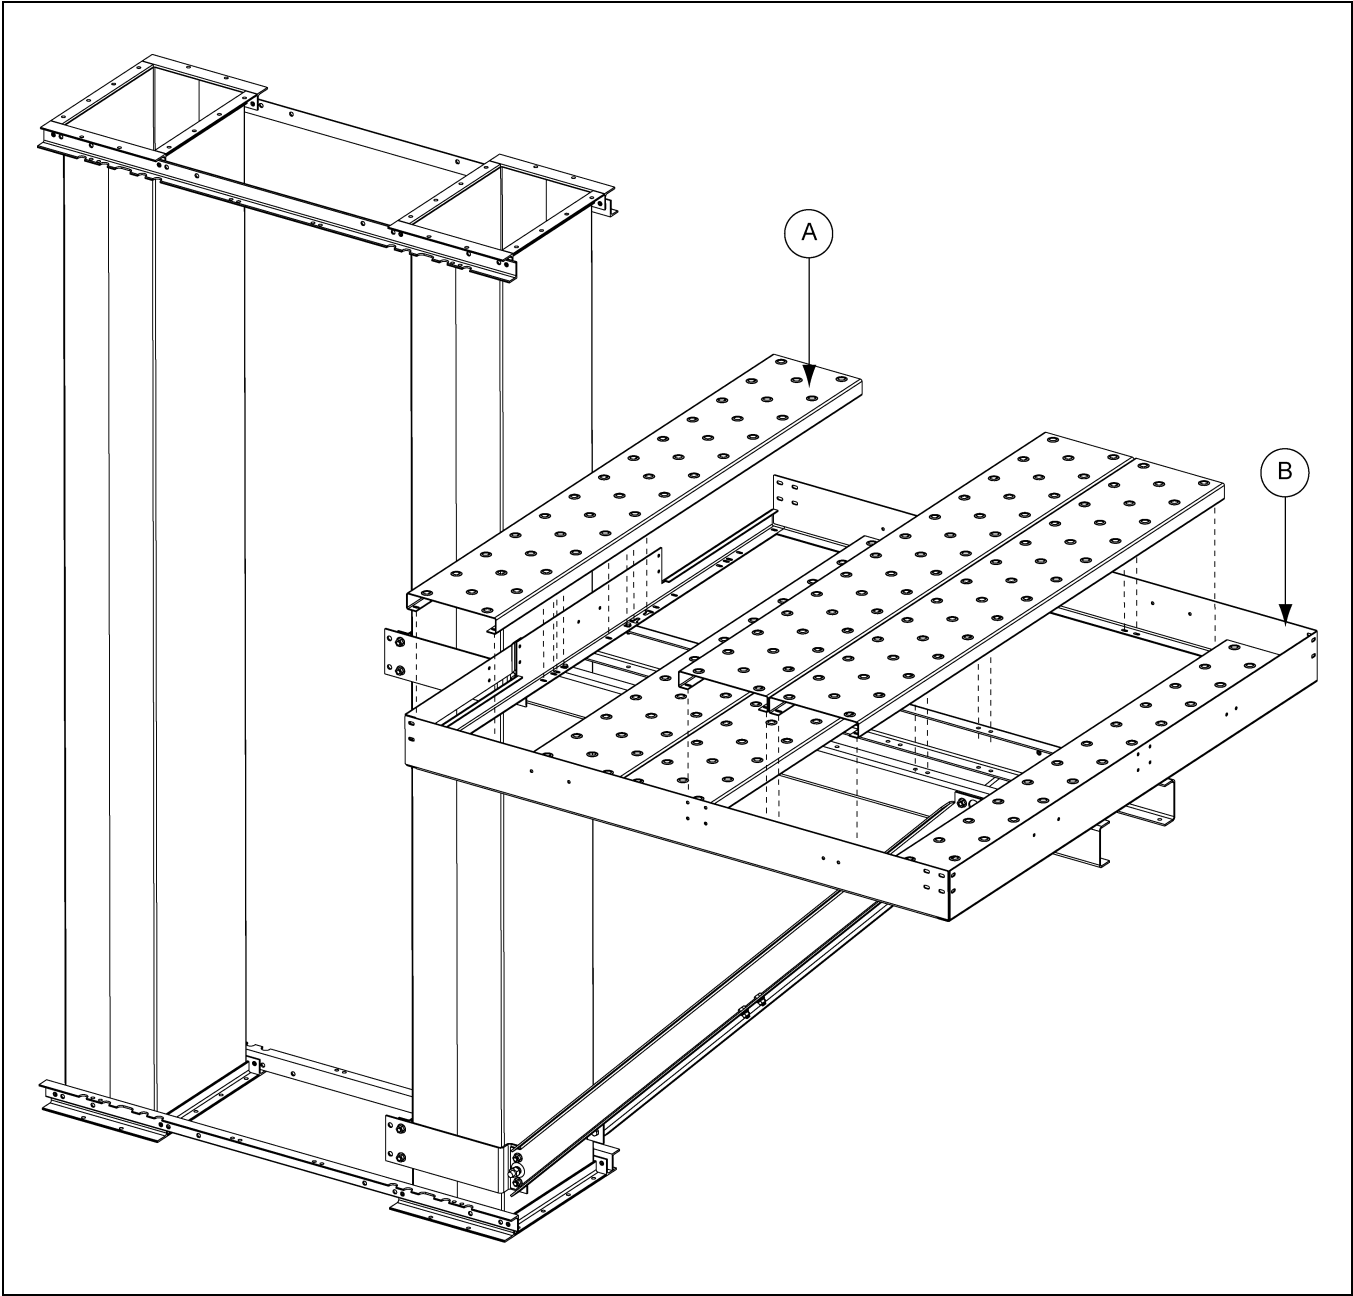
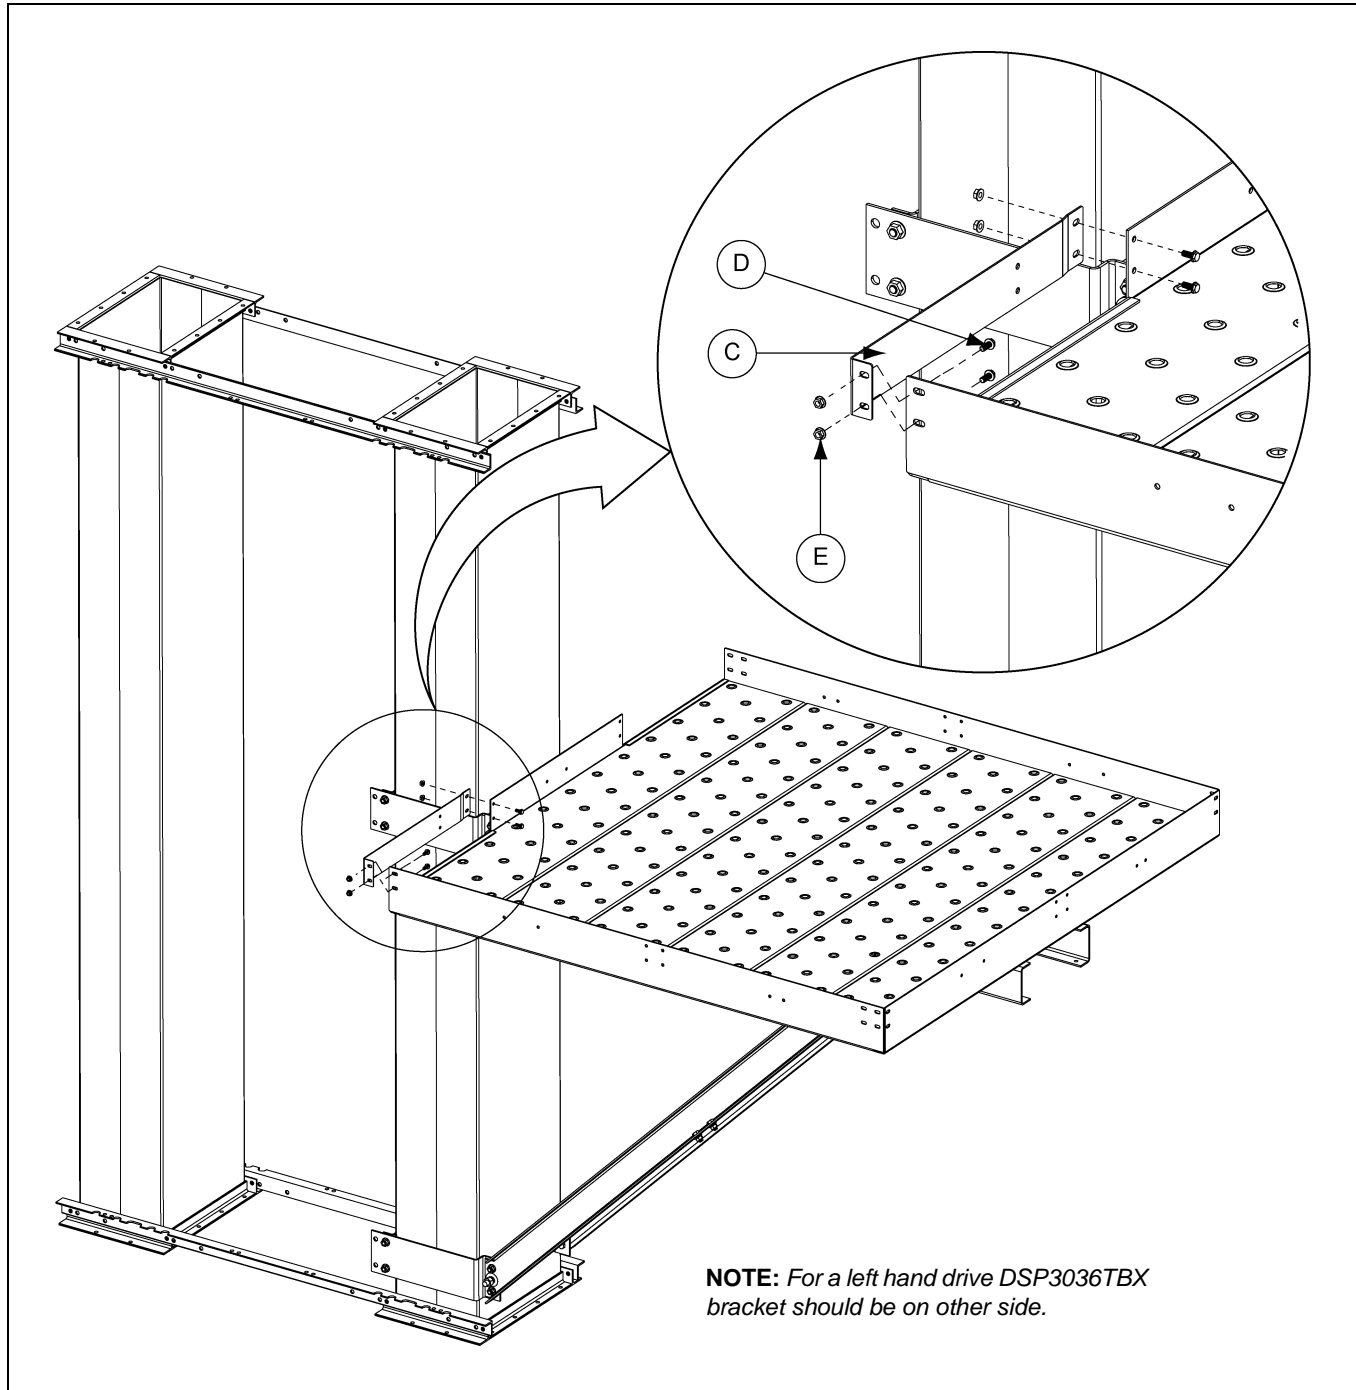

Figure 13F
Figure 13G
Attach the floor deck panels to the support channels. Then attach end toe boards (DSP36000X) (B) to the platform decking (DSP36004) (A) with the 5/16" hardware provided. Add extra toe board plates, after all pieces have been attached and positioned properly, tighten all hardware. (See Figure 13F below and Figure 13G on Page 116.)